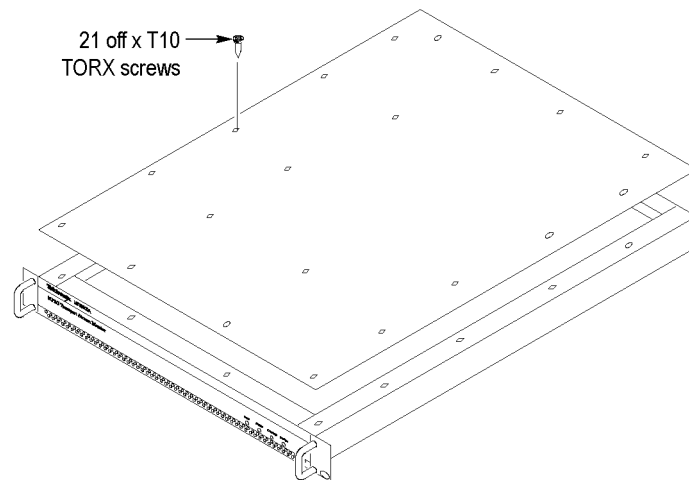

Figure 33: Removing the monitor cover
1. Remove the 21 cover retaining screws and set them aside. (See Figure 33.)
15. Line up the monitor top cover and replace the 21 retaining screws. (See Figure 33 on page 59.)